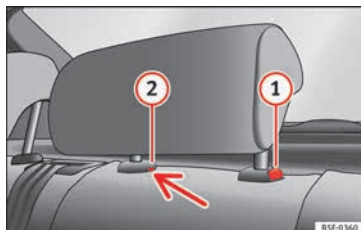

Fig. 142 Rear centre head restraint: release point.
- Press button **1** » **Fig. 142**, while simultaneously pressing on the security hole **2** » **Fig. 142** with a flat screwdriver a maximum of 5 mm wide, and remove the head restraint.